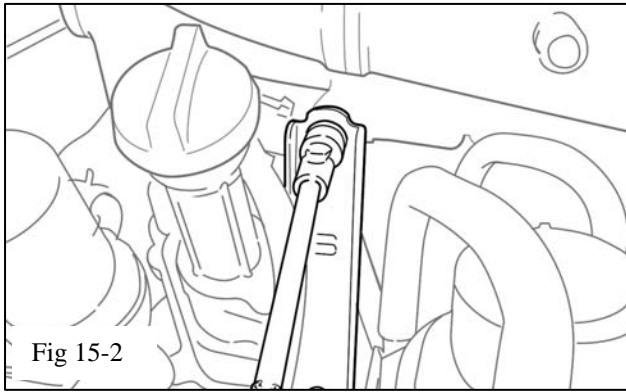

Fig 15-2
- (c) Install the original 2 bolts that attach the support brackets (2 surge tank stays) to the supercharger housing (Fig 15-2). Do not tighten.